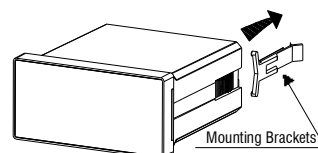

Figure 2
2. Remove the mounting bracket from the controller and insert the controller into the cutout. Refer to FIG 2.